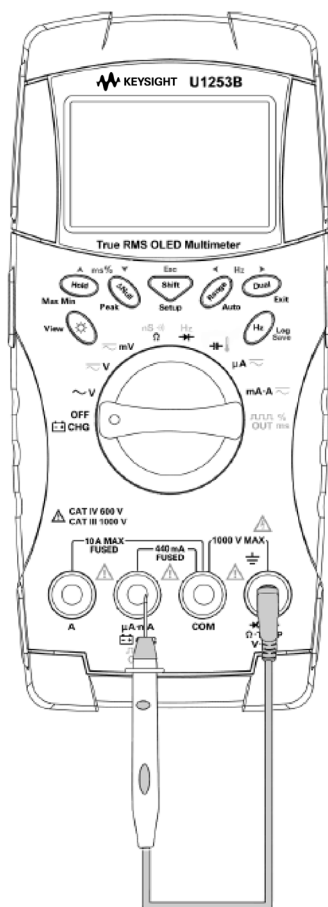

Figure 5-8 Fuse checking procedures
- 3** To test Fuse 1, place the tip of the test probe on the right half of input terminal **$\mu\text{A}\cdot\text{mA}$** . Ensure that the probe tip touches the metal inside the input terminal, as shown in Figure 5-8.